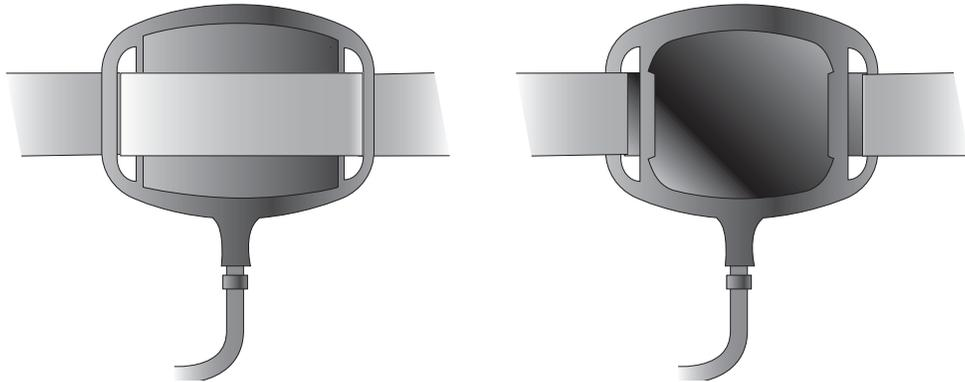

Figure 51. Attaching the adjustable belt
- » **Adjustable belt**—Slide the charging paddle through the belt loops so the belt runs across the back of the charging paddle, not across the charging surface (*Figure 51*).